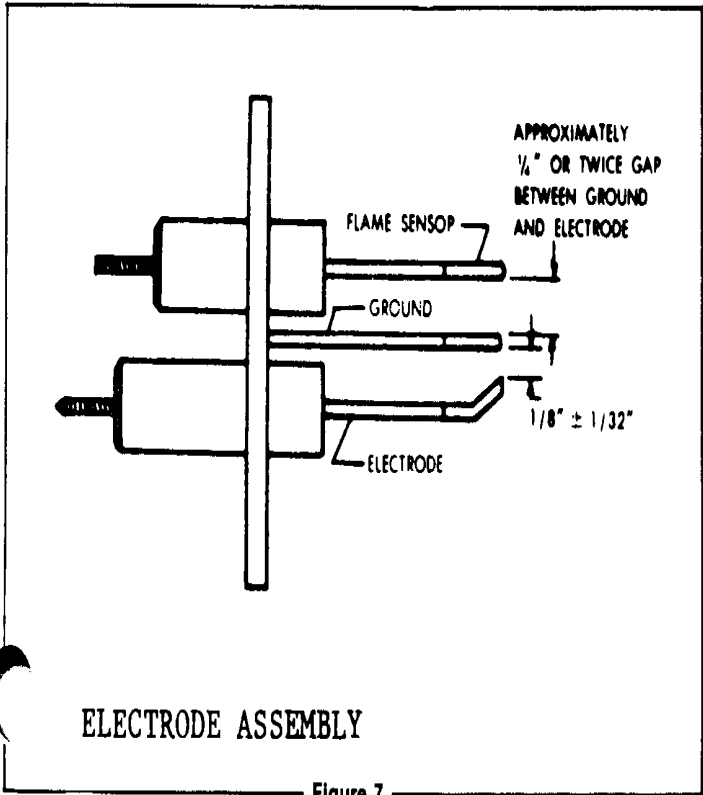

Figure 7
11. Make sure electrode is not grounding to burner, the gap between the spark probe and the ground probe is 1/8" (see Figure 7), and the ceramic insulator is not cracked, broken or sooted. Adjust, clean or replace as necessary.